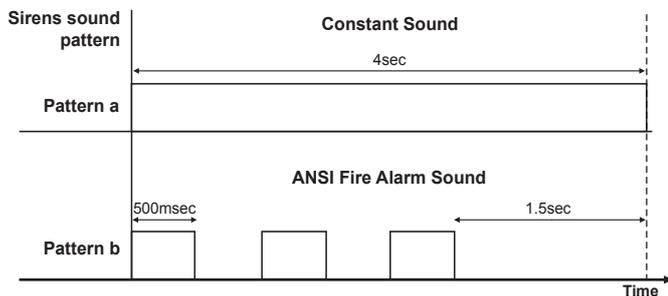

Figure 23. Sirens alarm patterns
- The General Alarm Relay Output 1 is activated and produces a constant or interrupted pattern (depends on ALM.3.6.8: |Siren 1 pattern|). See Figure 23 for a visual representation of the two patterns. See section 7.3.4 page 29 for information selecting the desired sound pattern.